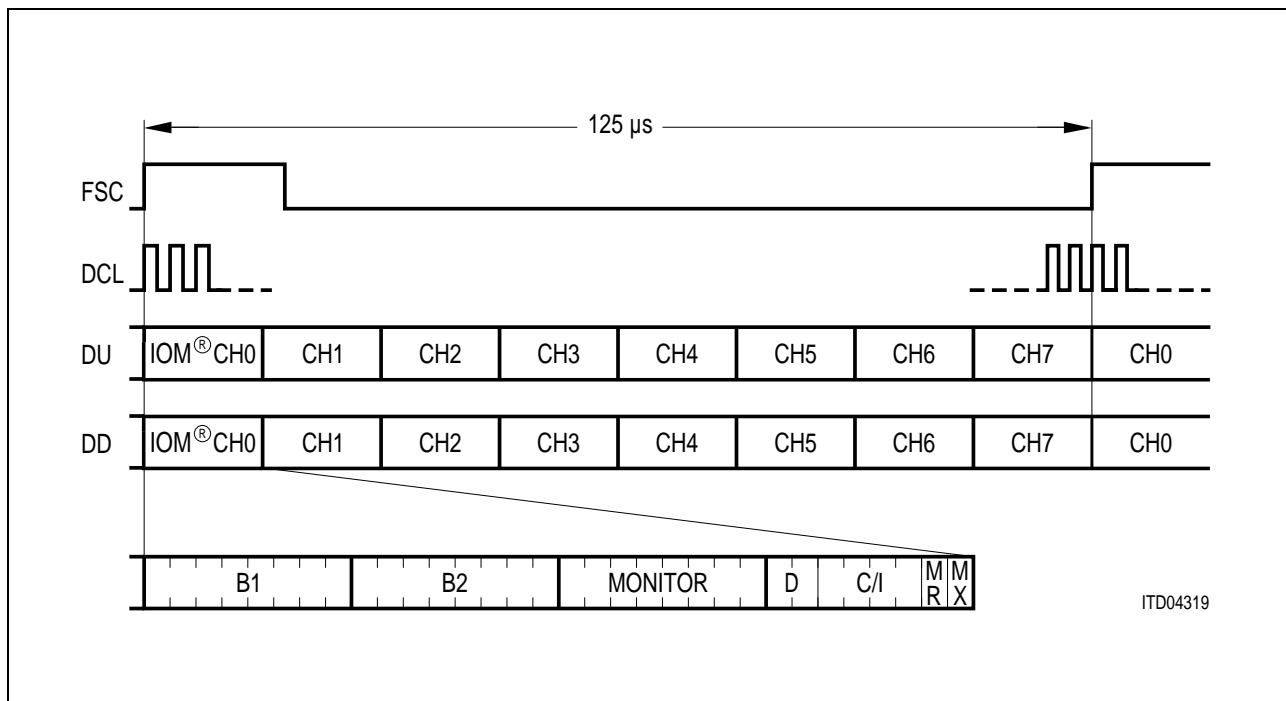

Figure 67
- It is compatible with the IOM[®]-2 industry standard for line cards/trunk cards (supporting the Monitor and C/I communication channels), **Figure 67**.